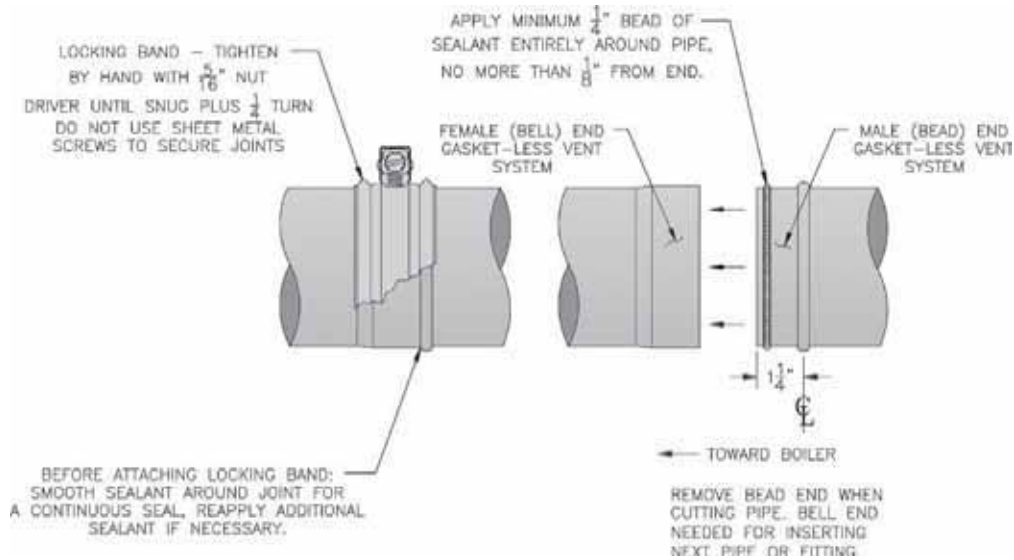

Figure 3A: Burnham Gasket-Less Vent Joint Detail
1. Procedure for Joining Burnham Gasket-Less Vent Pipe and Fittings. See Figure 3A.